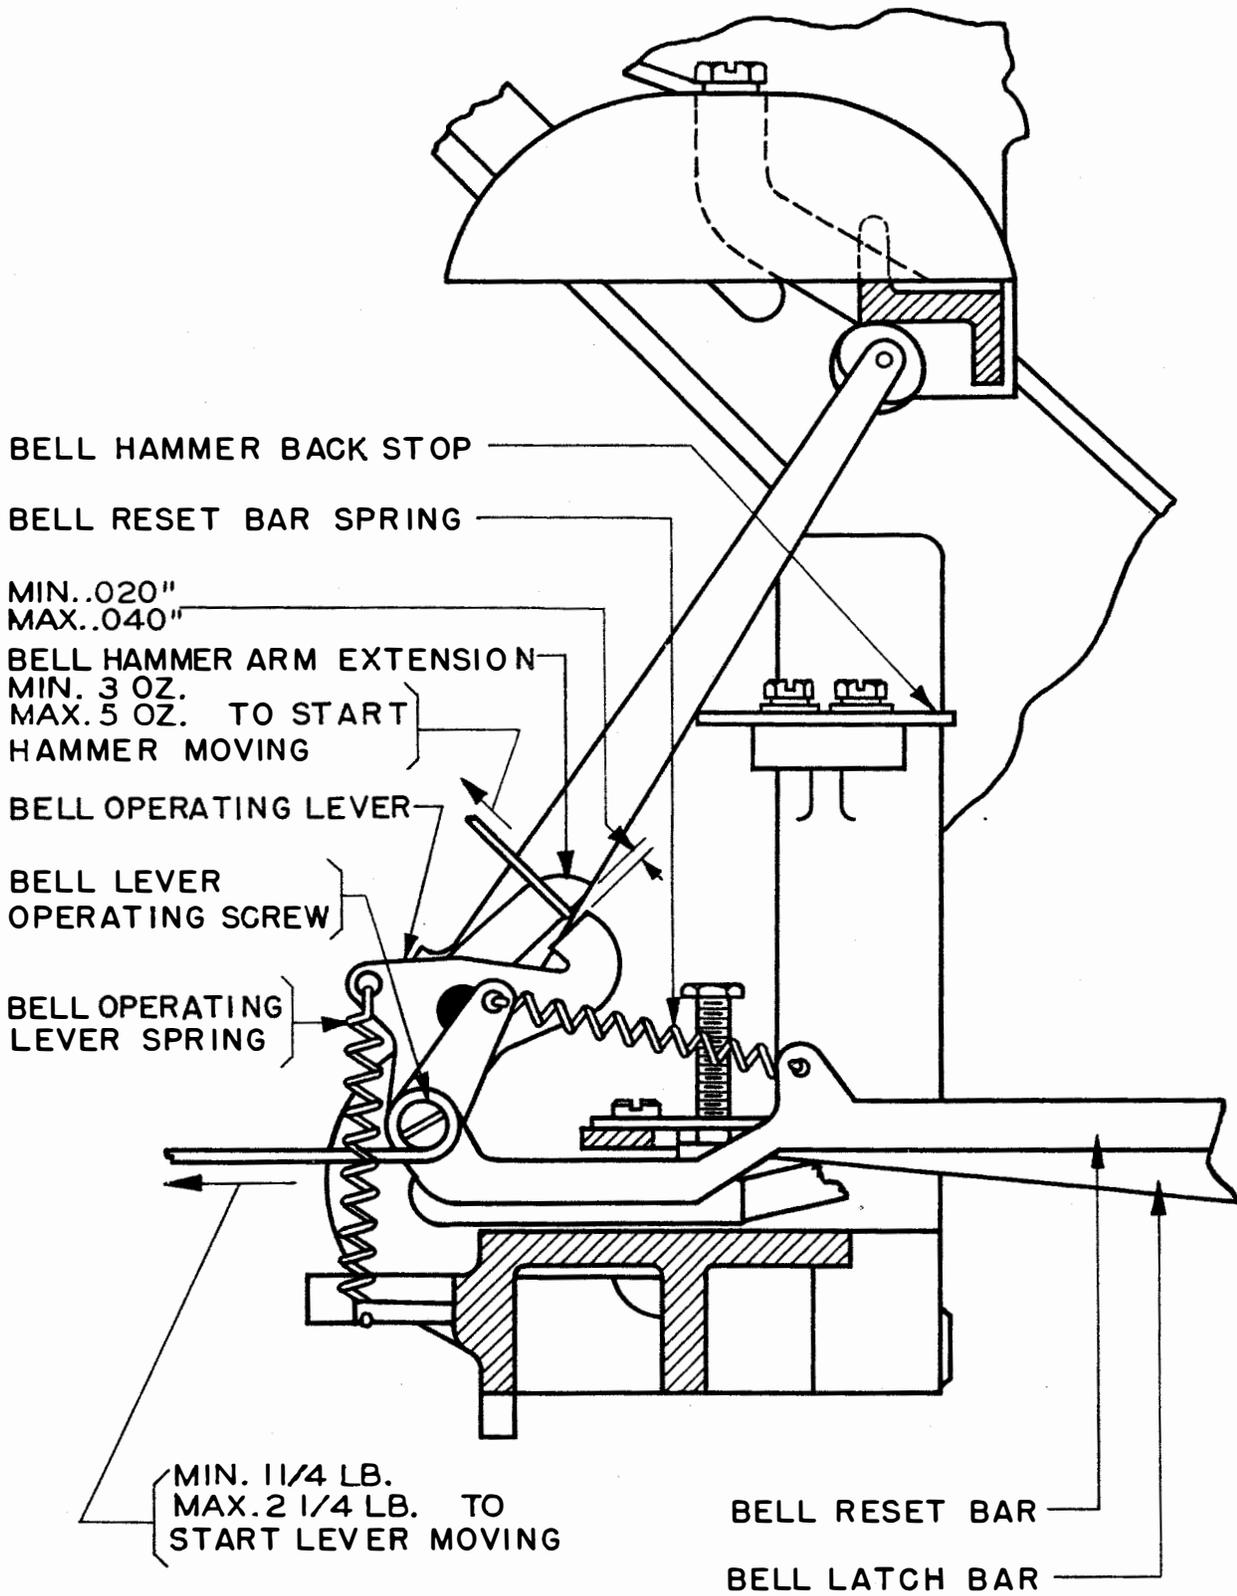

Figure 42
minimum 3 ounces, maximum 5 ounces when bell latchbar is in its latched position. See Figure 42.
To Adjust: Reposition the bell-hammer backstop; see Figure 42 for the standard backstop.
2.95 Signal-bell-hammer-arm Extension should clear the bell-operating lever by minimum 0.020 inch, maximum 0.040 inch when the bell latchbar is in its latched position. See Figure 42.
2.96 Signal-bell Operating-lever Spring should have a tension of minimum 1-1/4 pounds, maximum 2-1/4 pounds when the bell-reset-bar spring is removed and the rear shoulder of the bell latchbar is resting against the bell-latchbar latch. See Figure 42.